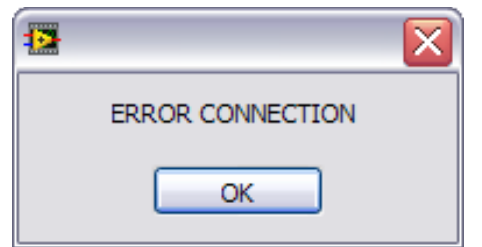

Figure 3. Error Message
3. Determine if the SDP is connected to the evaluation board in use. If the SDP is not connected to the evaluation board, a dialog box appears, shown in Figure 3. Check the connection between the SDP and AD5668 evaluation boards and run the program again.